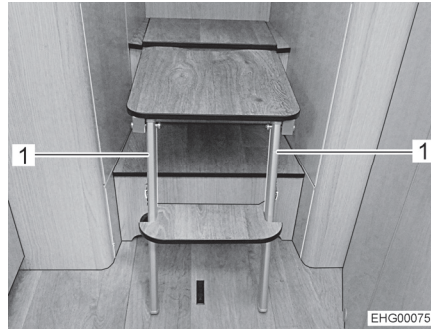

Fig. 109 Access ladder (folded out)
- Fold stiles (Fig. 109,1) fully out and set down on the floor.